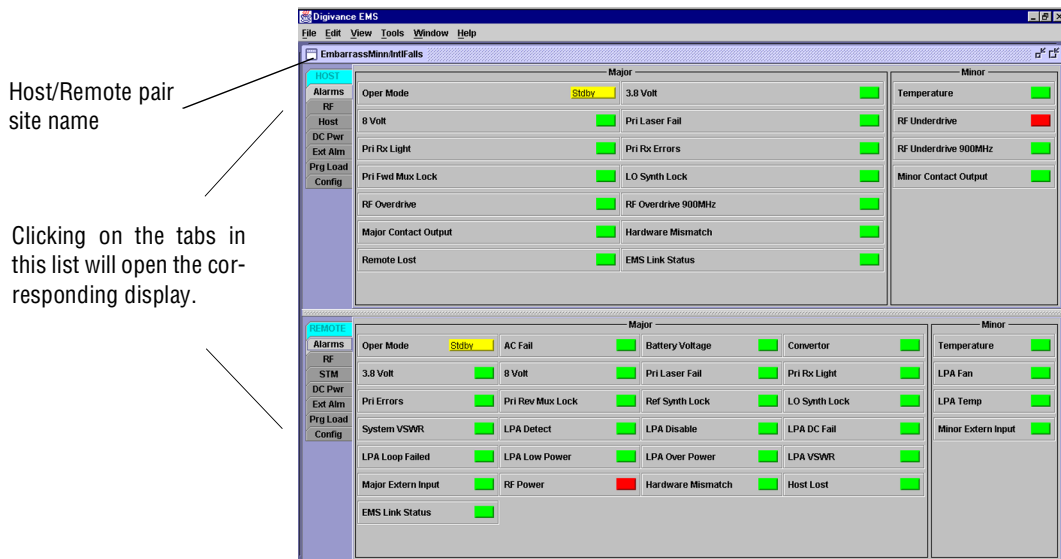

Figure 3-2. Selecting Display Tabs
- Open the **View** drop down menu and connect to the Host and Remote pair by selecting the “NotNamed/NotNamed” Host/Remote pair. The **HOST Alarms** display and the **REMOTE Alarms** display will open within the main window as shown in Figure 3-2.
11. Click on the **HOST Config** tab and on the **REMOTE Config** tab (see Figure 3-2). The **HOST Config** display and the **REMOTE Config** display will open within the main window.
15. Click on the **HOST RF** tab (see Figure 3-2). The **HOST RF** display will open within the main window.
20. Click on the **REMOTE RF** tab (see Figure 3-2). The **REMOTE RF** display will open within the main window.
22. Click on the **HOST RF** tab (see Figure 3-2). The **HOST RF** display will open within the main window.